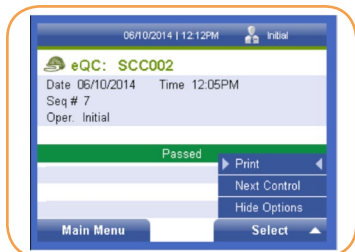

FIGURE 114
- To print control results, press the right soft key to select Options. The Option menu will be displayed (Figure 114).